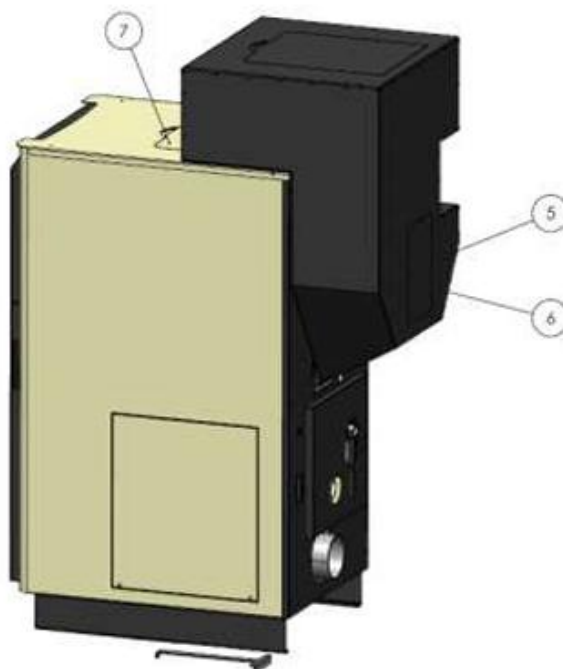

Fig. 3
- Lower the turbulator lever cover (7, Fig. 3) back into position.